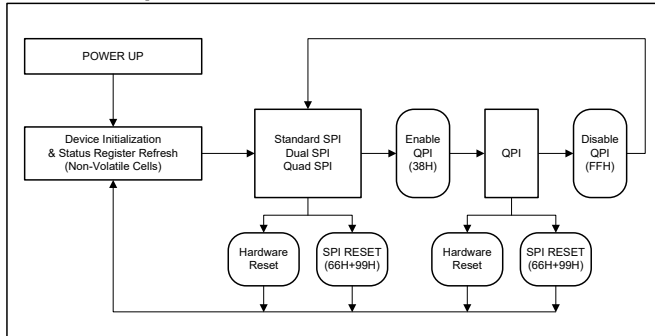

Figure 3. AS25F3128MQ Flash Memory Operation Diagram
Upon power-up or after a software reset with “Reset (99h)” instruction, the default state of the device is Standard/Dual/Quad SPI mode. The QPI commands require the non-volatile Quad Enable bit (QE) in Status Register set to 1. When the QPI instruction is under function, the DI and DO pins become bidirectional IO0 and IO1, and the /WP and /HOLD pins become IO2 and IO3 respectively. The device's operation modes are shown in Figure 3.